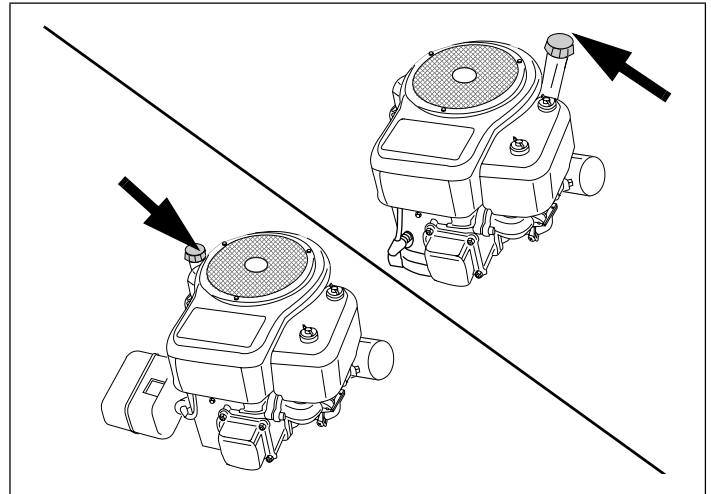

Figure 20. Oil Filler Locations
8. Fill with recommended oil. See "III. Oil and Fuel Specifications" instructions on page 4. See "Table 1. Recommended Oil Usage" instructions on page 4. See Figure 20. Afterward, continue reading instructions below.